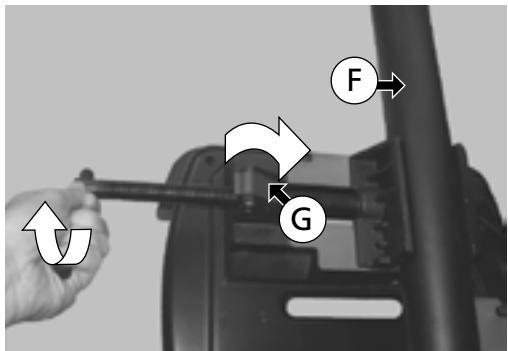

Fig. 18
4. Raise and again turn "half a thread" (G) - (Fig. 18) - to attach the screw. Press the crank handle of the screw so that the piece to be cut is firmly fastened to the bench lathe - (Fig. 18).